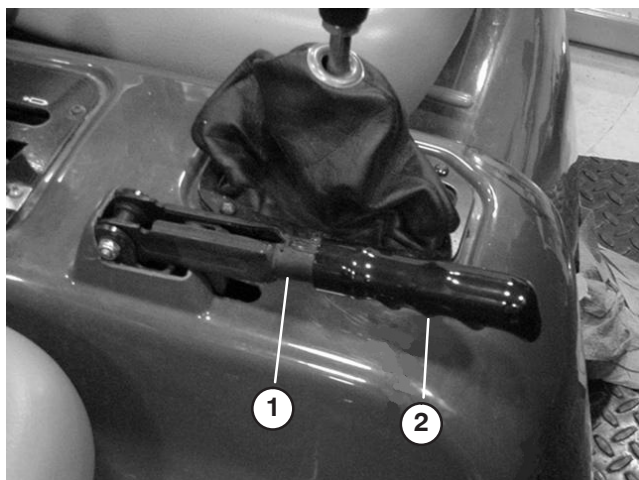

Figure 65
1. Remove rubber grip from parking brake lever (Fig. 65)